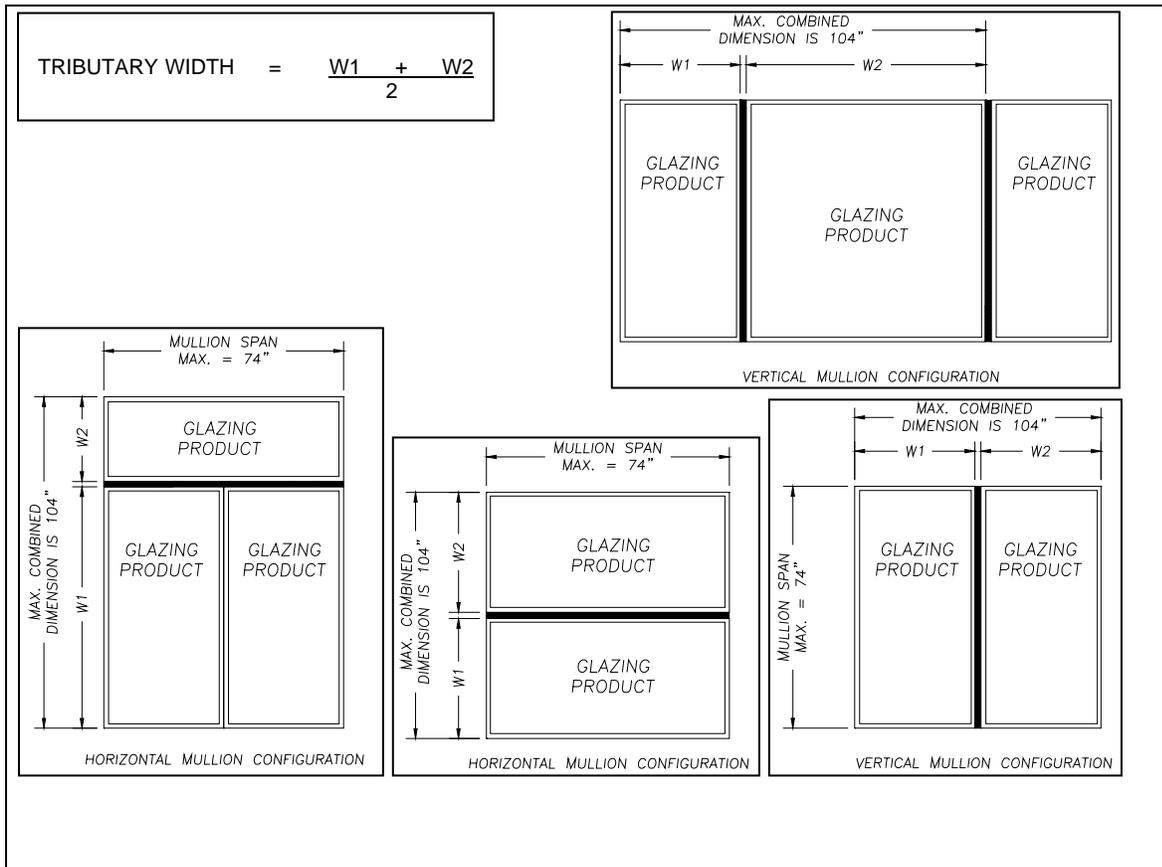

Figure 1
2. For the particular opening, determine the tributary width and mullion span. Reference Fig. 1 below for mullion span and tributary width determination.